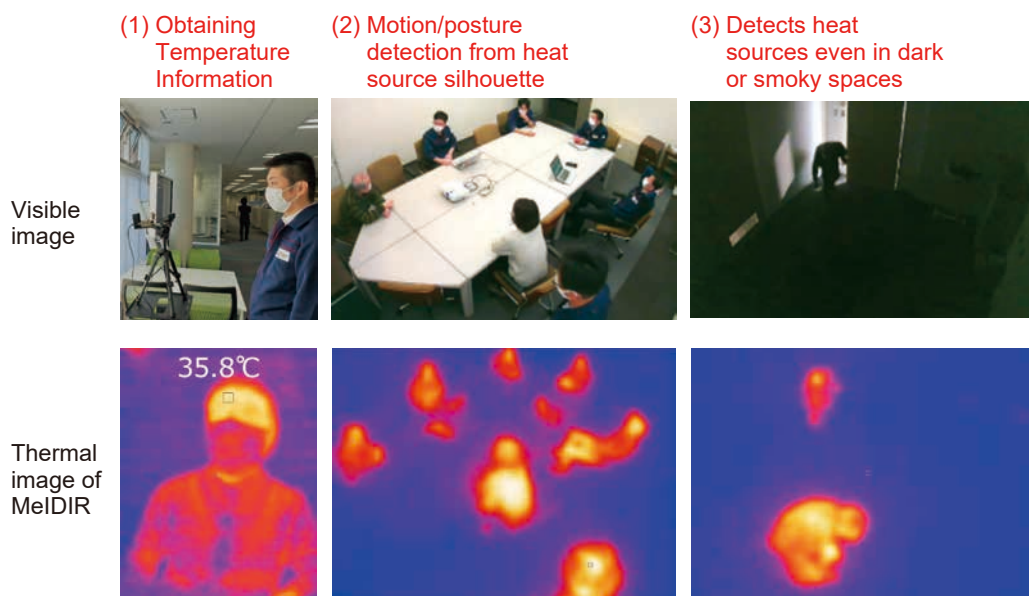

Fig. 1 Features of infrared sensor
The infrared sensor has a function which detects and enables visualization of the heat from objects without contact by converting the infrared radiation received into an electric signal. Figure 1 shows those features. (1) Because the sensor can acquire the heat information from the heat source without contact, it is excellent from the view of hygiene and safety. (2) It can determine a person's motion or posture from the silhouette of the heat source. This is particularly effective in scenarios where privacy protection is required, so the sensor can be used even in toilets or bathrooms where cameras